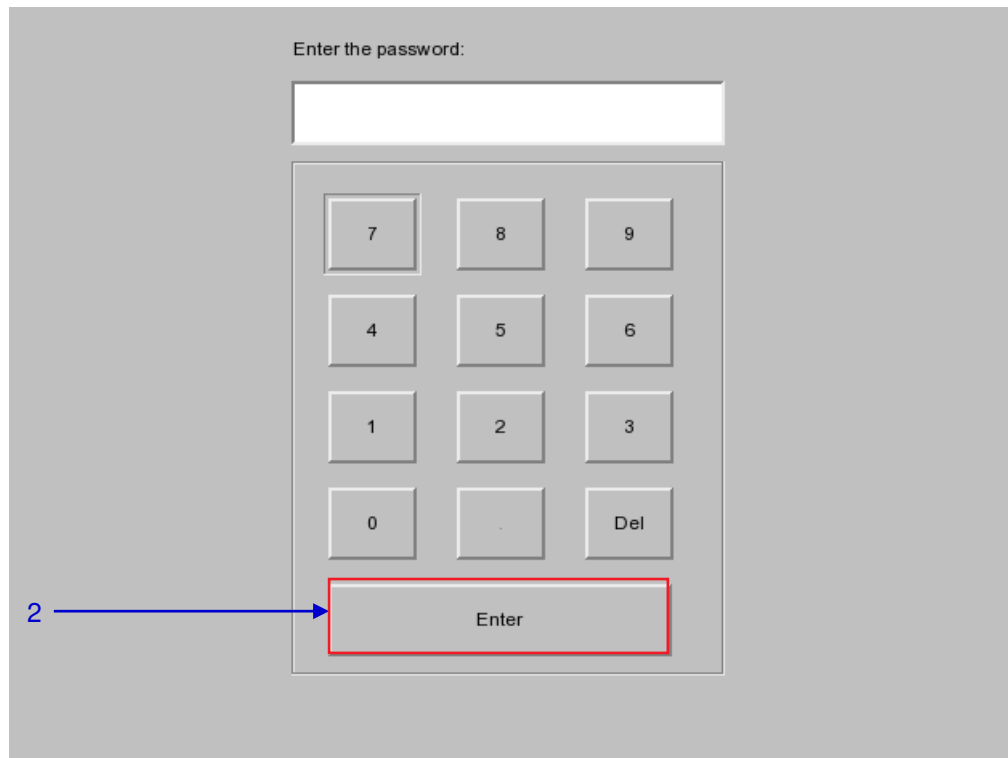

Figure 114 Diagnostics/Maintenance [Software Upgrade]
- 1 From the **Software Upgrade** button in the Admin Panel you can run any GDC issued upgrade files, once you press the button you will be prompted for the upgrade password as seen in **Figure 114**.